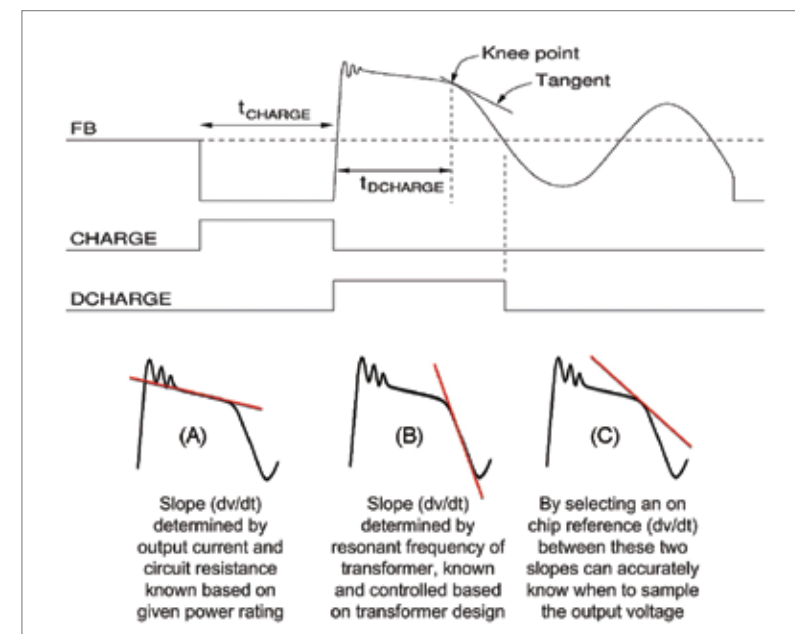

Figure 2: Accurately determining the discharge waveform's knee point vastly improves regulation accuracy.
The key to the C2163's regulation performance lies with the controller's ability to examine the tangent of the slope to find the knee point during the energy transfer phase, as figure 2 shows. At the knee point the secondary winding current has fallen to zero, so resistive volt drop is also zero, allowing accurate voltage sampling. The circuit's output current and circuit resistance are known by design and set the initial dV/dT slope, as in (A). Similarly, the second slope (B) is known as a function of the transformer's resonant frequency, which is again fixed by design. An on-chip reference dV/dT slope (C) then makes it possible to assess precisely when to sample the output voltage.